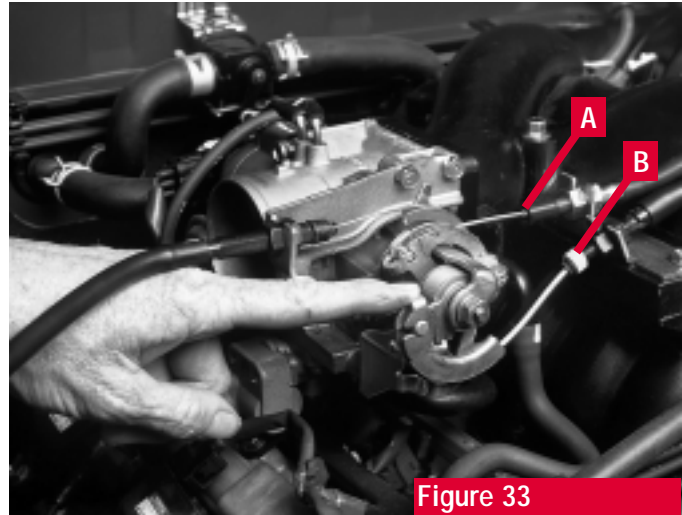

Figure 33
10. Install the transmission kickdown cable sheath (**see arrow A, figure 33**) and throttle cable sheath (B) in the bracket and when you have re-created the adjustment noted earlier (see step 12 under "Removal of Stock Intake Manifold"), tighten the nuts.